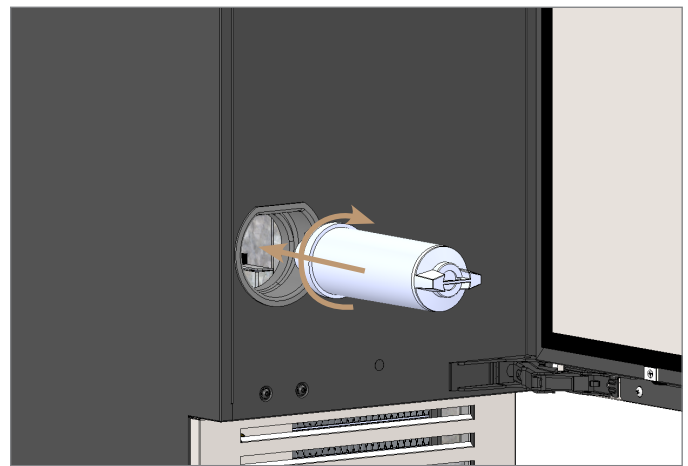

FIG. 2. Insert the replacement water filter and rotate it clockwise.
3. Insert the replacement water filter and rotate the filter clockwise. See fig. 2.